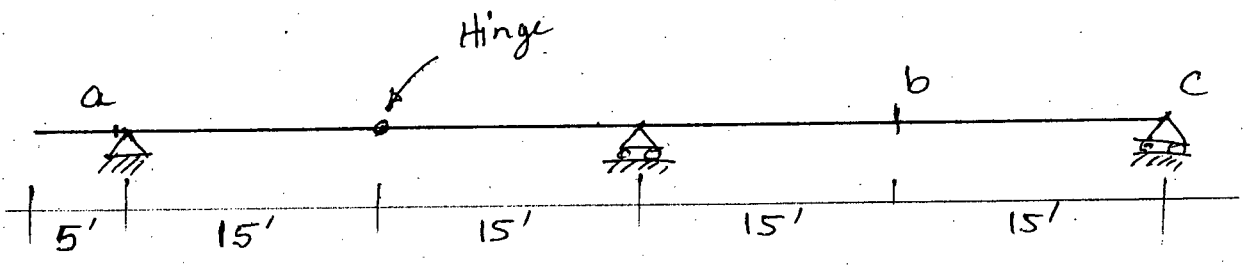

Fig. 1
1. Draw the influence lines for shear at a (left), moment at b and reaction at c of the beam shown in Fig. 1 (21)